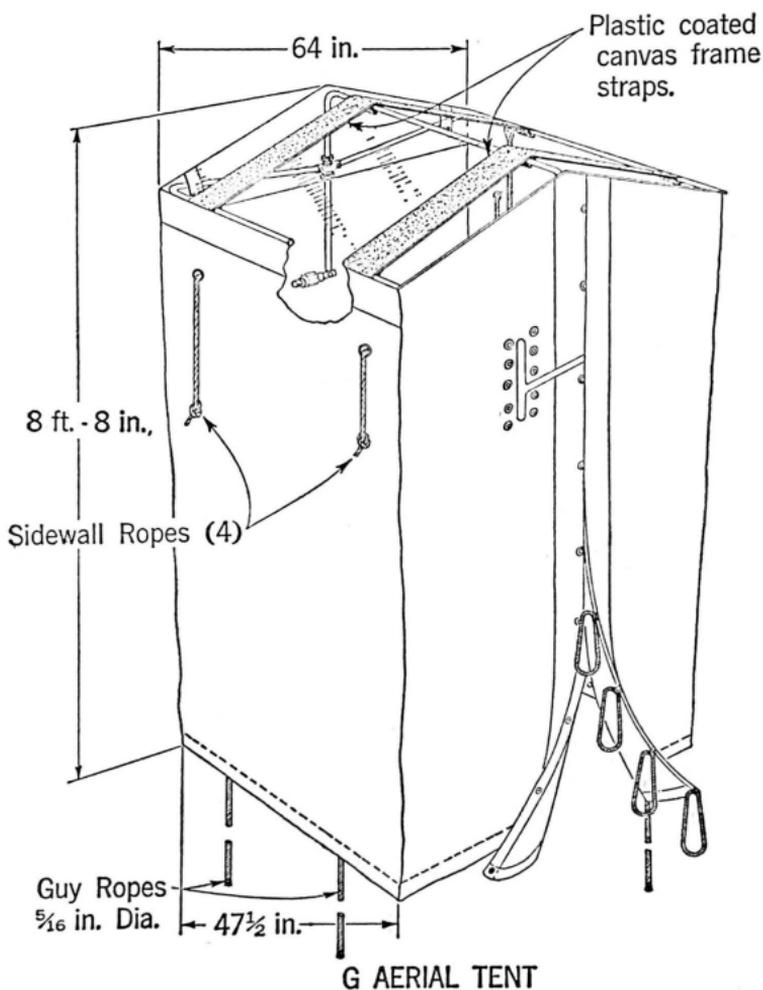

Fig. 1
are supported on opposite sides of a pole. The openings are equipped with grommets and ropes for closing them when required. Fig. 1 illustrates the G Aerial Tent.
2.04 Two plastic coated canvas frame straps are attached to the bows to minimize strain on the tent cover (see Fig. 1).